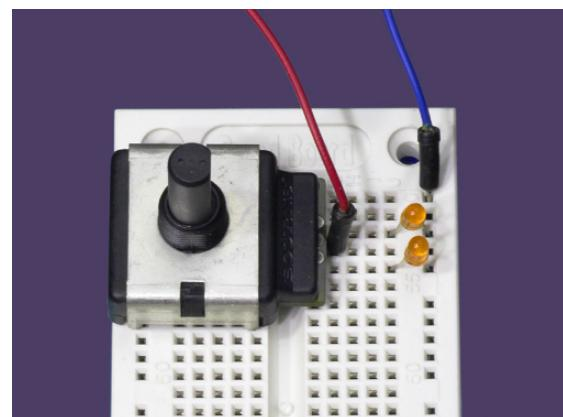

Figure 33-3. Many encoders, such as this one, can be plugged into a breadboard for testing.
0.1" apart and can plug directly into a breadboard, as shown in Figure 33-3.